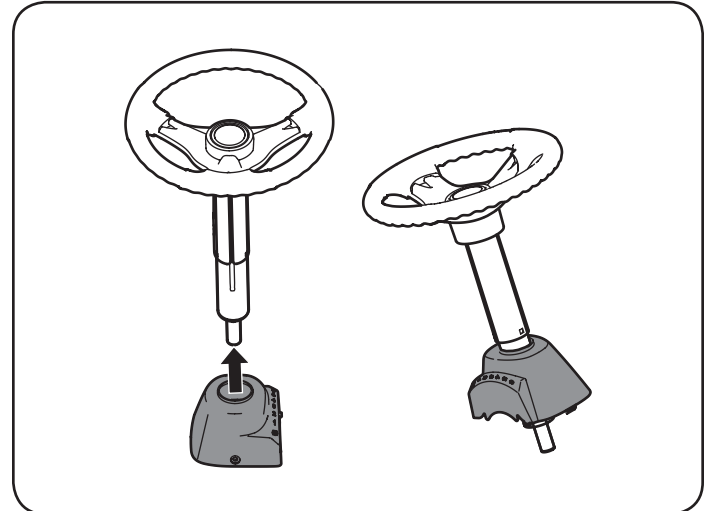

Figure 2
1. Slide the pedestal cap onto the steering shaft so that when the steering shaft is installed on the tractor, the pedestal cap will be upright as shown in Figure 2.
4. Lower the steering wheel assembly onto the lower steering shaft (1) and secure with bolt and lock nut (2) previously removed. See Figure 2.